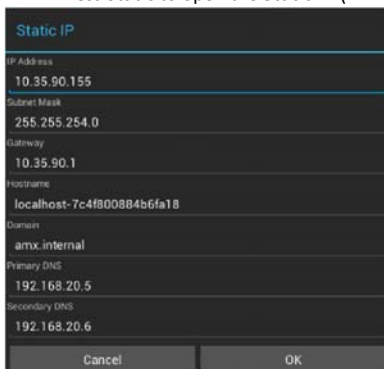

FIG. 54 Static IP (IPv4) window
2. Press **Static** to open the Static IP (IPv4) window (FIG. 54).